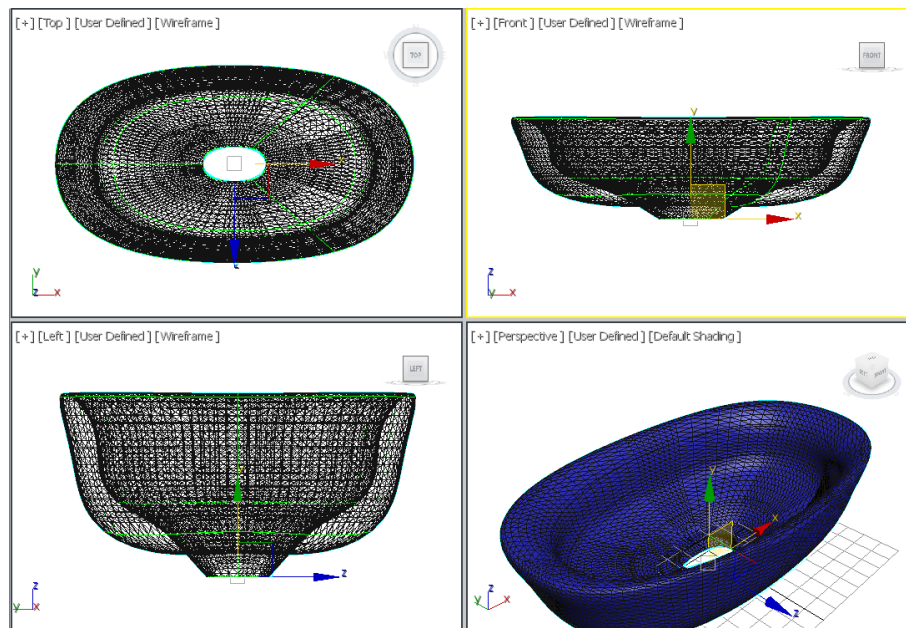

Figure 15-62 A NURBS surface created in viewports
3. In the **U Loft Surface** rollout, select the **Flip Normals** check box. Next, right-click to exit the U loft command; a NURBS surface is created in the viewports. Choose the **Zoom Extents All** tool. Figure 15-62 shows NURBS surface in the viewports.